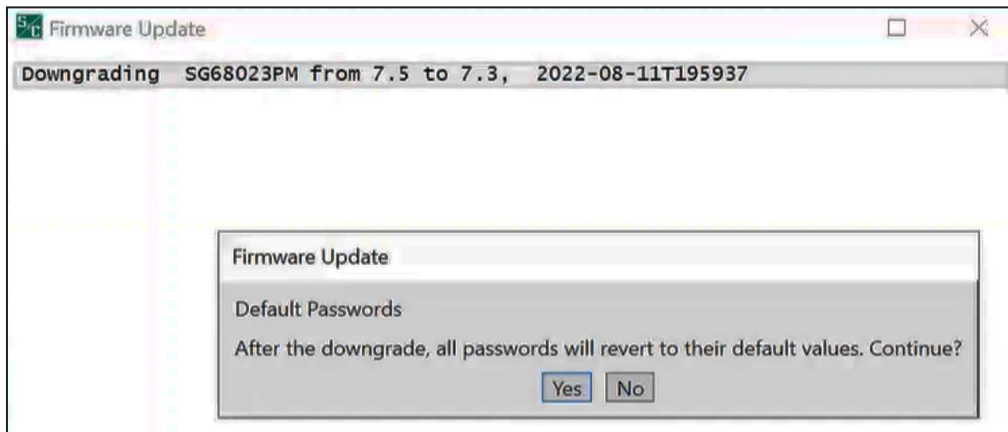

Figure 47. The Default Password downgrade message.
STEP 18. When downgrading from a software version of 7.3.100 or later to a software release earlier than 7.3.100, a message will appear about the passwords being reverted to defaults during the downgrade process. Click on the **Yes** button to proceed with the downgrade. Choosing “No” will stop the downgrade process. See Figure 47.